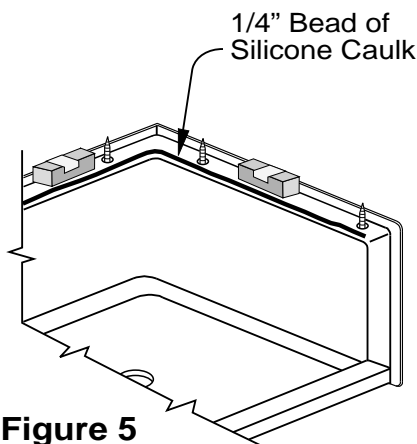
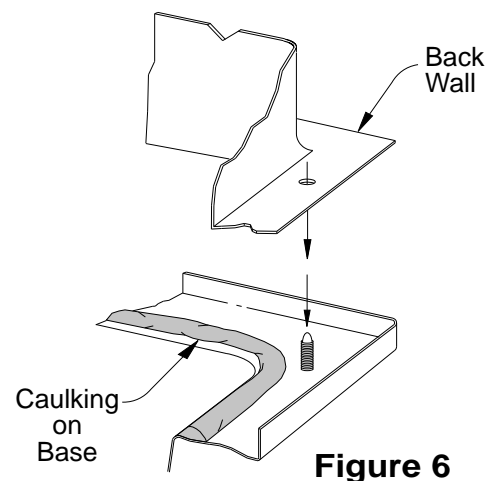

Figure 5
Figure 6
23. Apply a continuous bead of silicone caulk to the top connection surface. Apply the caulk between the inside edge and plastic fasteners. (See Figure 5). The holes in the back wall mounting surface will index with the plastic fasteners to line up the part with the base. The caulking will secure the parts together when it cures. See Figure 6.